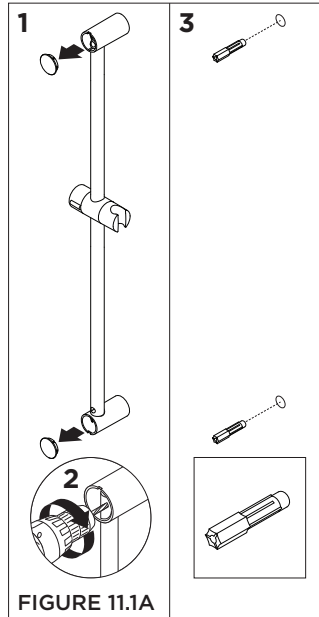

FIGURE 11.1A
**Note:** Slide bar holes and bracket holes must be aligned before drilling. Before drilling bottom hole, make sure slide bar is plumb (FIGURE 11.1A).